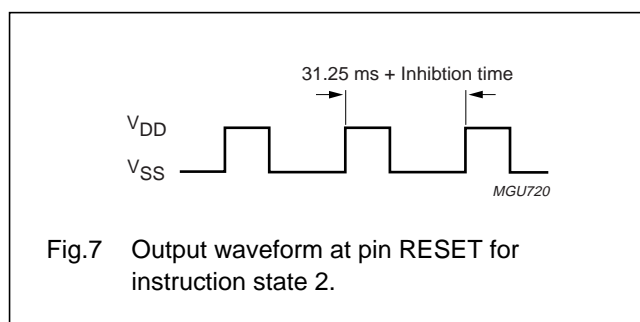

Fig.7 Output waveform at pin RESET for instruction state 2.
- State 2; inhibition time (see Fig.7); a frequency with the period of $(31.25 + n \times 0.122)$ ms appears at pin RESET and as current modulation at the supply pin.